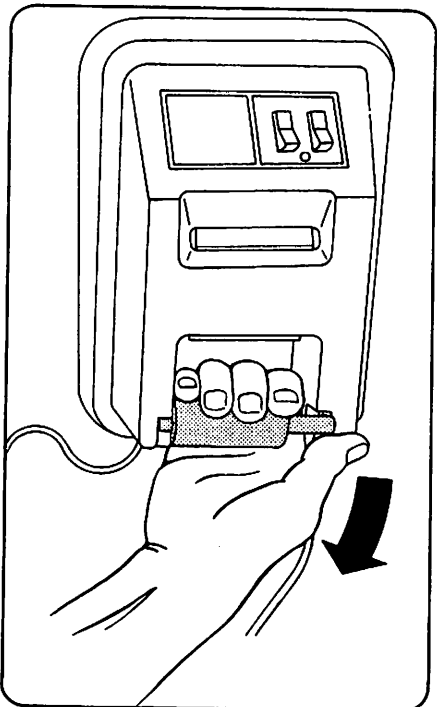

Figure 3. Removing Paper Supply Shaft
1. Remove the Paper Spool and Shaft by pulling the Spool and Shaft assembly straight out of the recessed bearing cavities in the sides of the Printer Housing (Figure 3). Exert a steady pulling pressure on one end of the Shaft to snap the Shaft off the bearing.